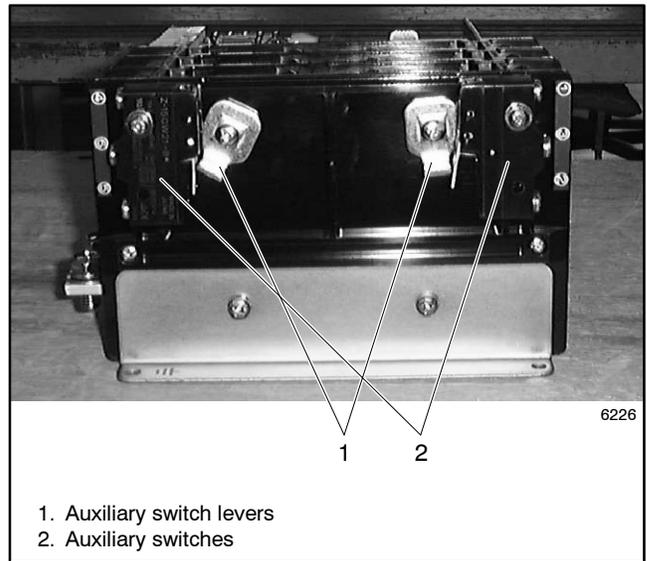
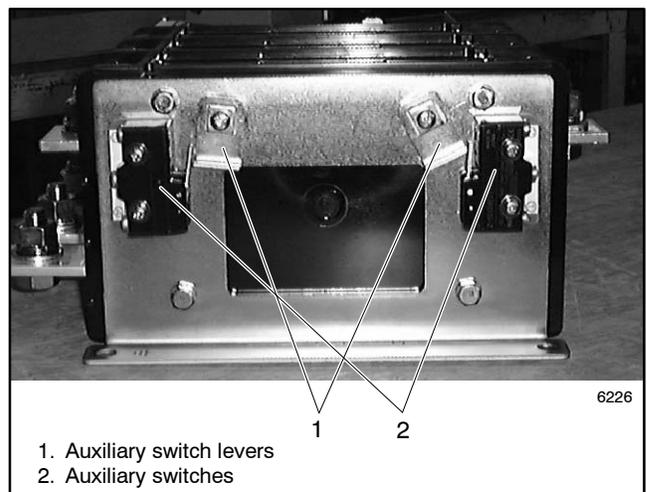

Figure 6-9 100 and 200 Amp Models
Figure 6-10 400 Amp Models
3. Reinstall the auxiliary switch levers, if removed, aligning the square indentation with the end of the square shaft. See Figure 6-9 and Figure 6-10.
4. Reinstall the auxiliary switches, if removed. The 100 and 200 amp models use one bolt and one alignment pin per switch. See Figure 6-9. Larger models use two bolts per switch. See Figure 6-10.